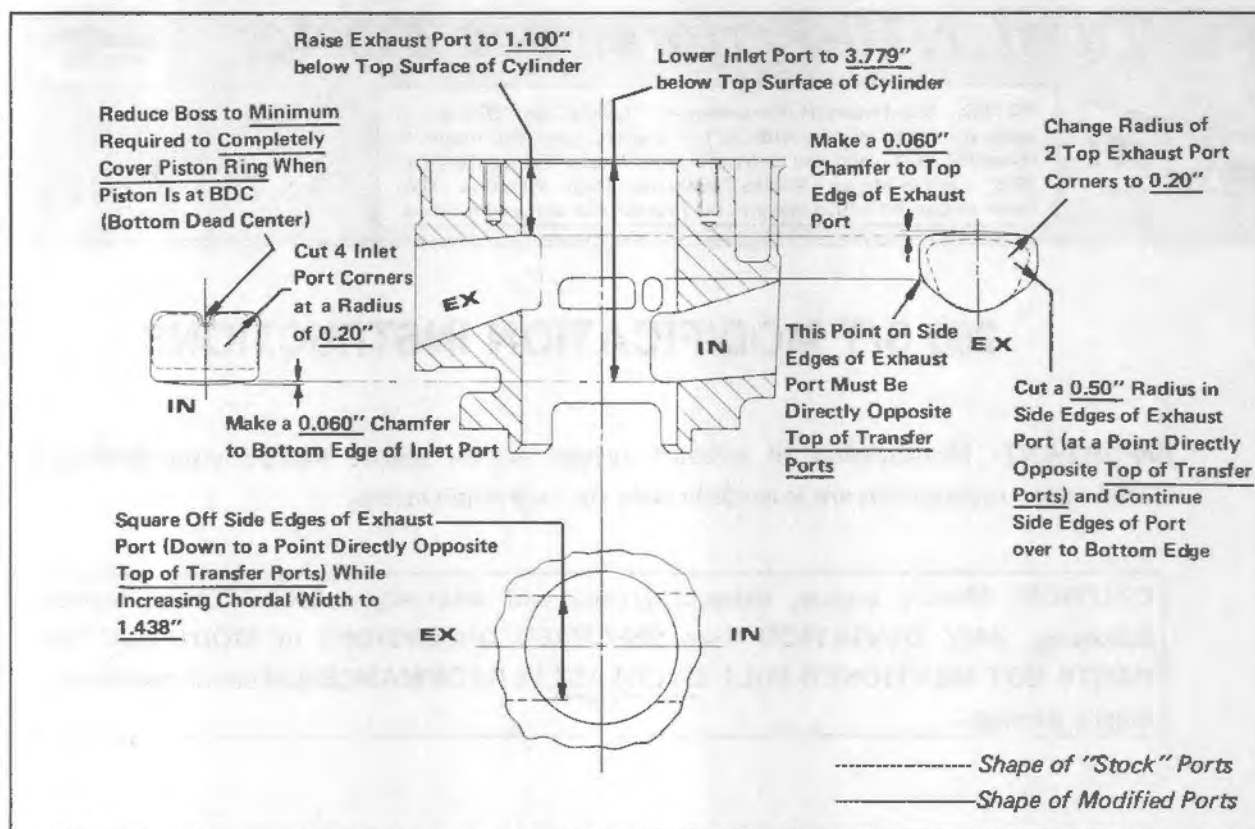

Figure 1. 250 S/T "Modified-Stock" Cylinder Dimensions
- a. Raise top edge of exhaust port to a point 1.100" (27.94mm) below top surface of cylinder. (Figure 1) **DO NOT** change bottom edge of exhaust port.
- b. Square off side edges of exhaust port (down to a point directly opposite top of transfer ports) while increasing chordal width of port to 1.438" (36.00mm). (Figure 1) Cut a 0.50" (12.70mm) radius in side edges of exhaust port (at a point directly opposite top of transfer ports) and continue side edges of port over to bottom edge of port, as shown in Figure 1.
*NOTE: Chordal width (Figure 1) is straight line distance between side edges of port (not following curvature of cylinder wall).*
- c. Change radius of 2 top exhaust port corners to 0.20" (5.08mm). (Figure 1)
- d. After grinding exhaust port, make a 0.060" (1.52mm) chamfer to top edge of exhaust port. (Figure 1) **DO NOT** chamfer side edges or bottom edge of port.
- Lower bottom edge of inlet port to a point 3.779" (95.99mm) below top surface of cylinder. (Figure 1) DO NOT change top edge or chordal width of inlet port.
- Cut 4 inlet port corners at a radius of 0.20" (5.08mm). (Figure 1)
- Reduce boss at top edge of inlet port to a minimum. (Figure 1) Boss must be large enough to completely cover piston ring when piston is at BDC (bottom dead center).
- After grinding inlet port, make a 0.060" (1.52mm) chamfer to bottom edge of inlet port. (Figure 1) DO NOT chamfer side edges or top edge of port.